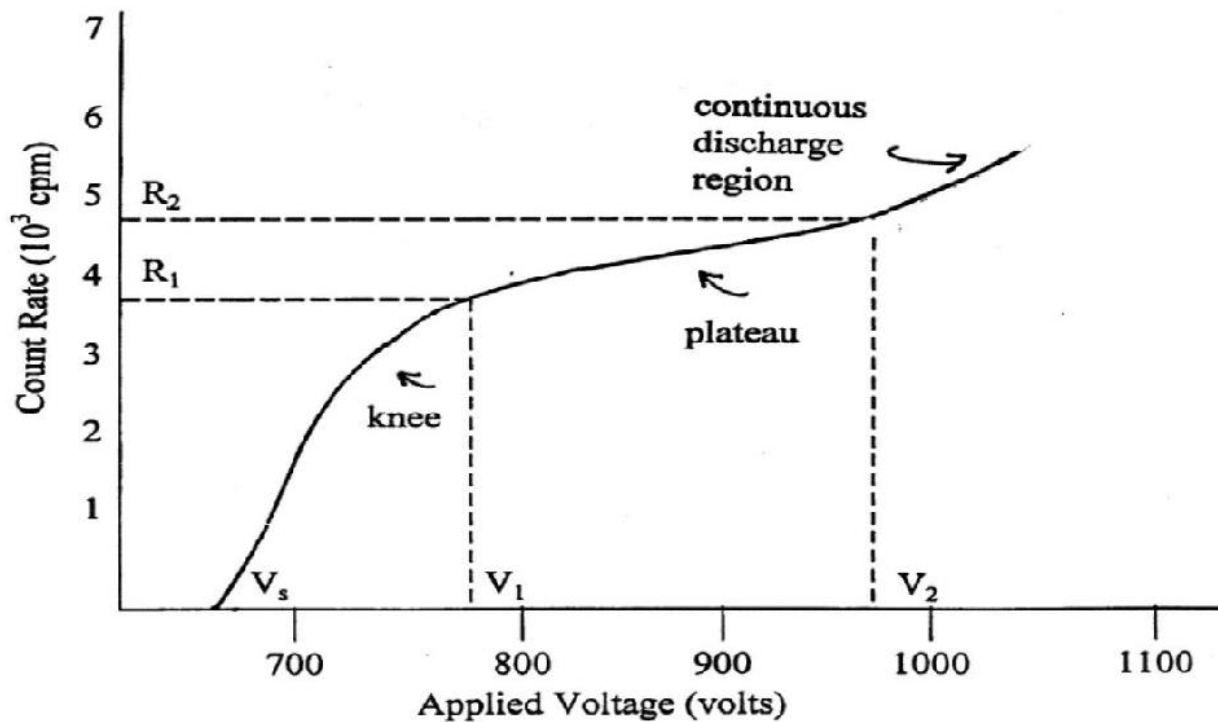

Figure 4: characteristic curve of GM counter
6. A demo labeled plot of Counts vs Voltage is shown in Fig.4. You should plot Corrected Count Rate vs Voltage.